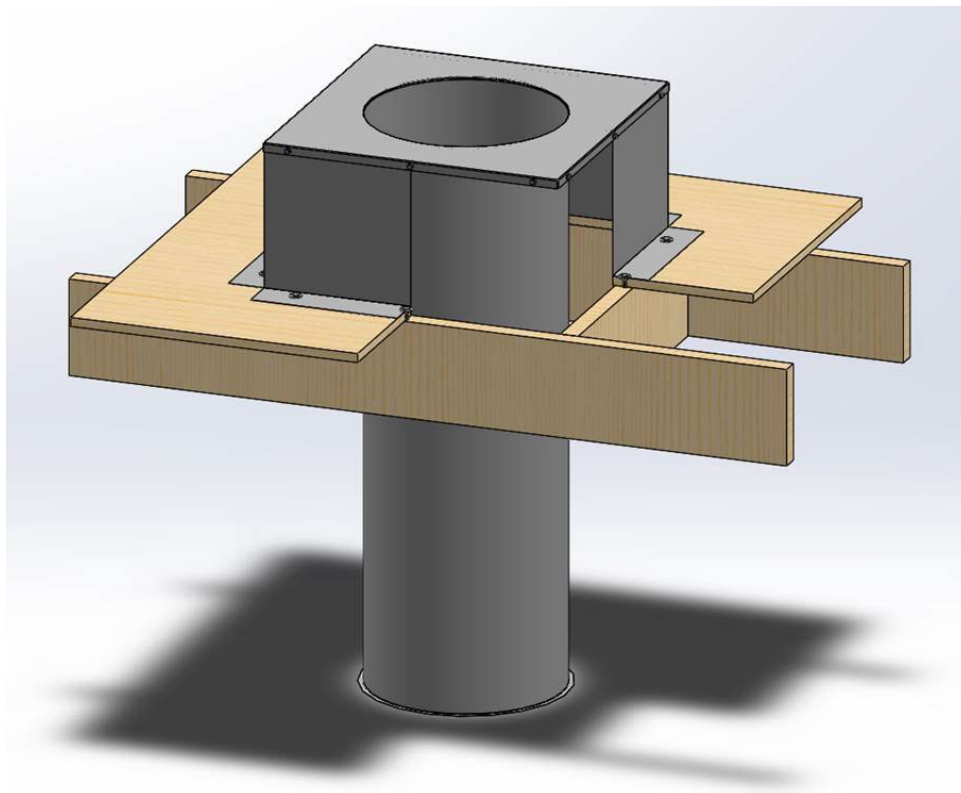

Figure 5. Curb Vertical Supports
C. CURB VERTICAL SUPPORTS – Use the curb vertical support assembly (see Figure 5) supplied by the duct manufacturer and consisting of a min. 20 GA aluminized steel welded curb and a duct section with welded min. 16 GA